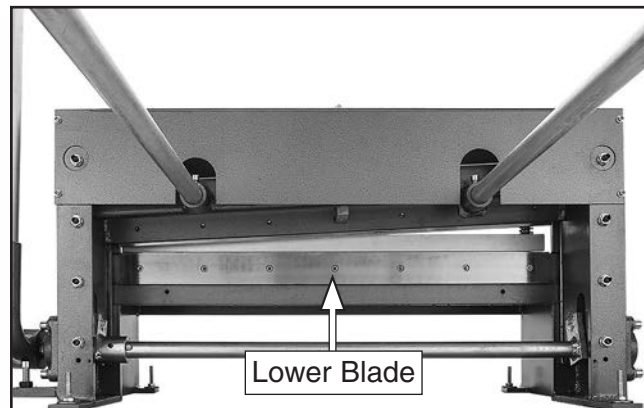

Figure 18. Lower blade removal (viewed from bottom).
3. Loosen cap screws securing lower blade to frame (see **Figure 18**). **7013** uses 7 cap screws; **7014** uses 11 cap screws.